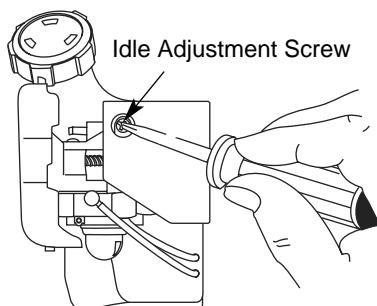

Fig. 33
The idle speed of the engine is adjustable. An idle adjustment screw is reached through a hole in the top of the engine cover (Fig. 33).
2. Release the throttle trigger and let the engine idle. If the engine stops, insert a small Phillips into the hole in the air filter/muffler cover (Fig. 33). Turn the idle speed screw in, clockwise, 1/8 of a turn at a time (as needed) until the engine idles smoothly.